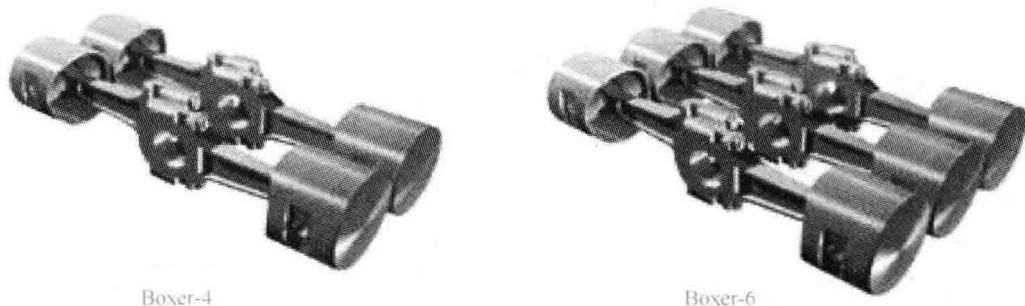

Fig. 1-6 Boxer engines
**Boxer engine** uses two opposing rows of cylinders with two cylinder heads at a 180 degree angle to each other, and it is less common than the above two designs. Boxer engines are usually either 4-or 6-cylinders (see Fig. 1-6).